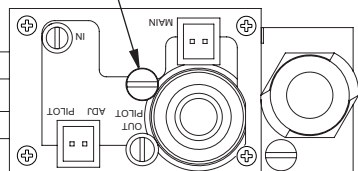

Figure 29 - Turning Equipment Shutoff Valve to the OFF Position
5. Turn equipment shutoff valve clockwise  to the OFF position (see Figure 29). Do not force.
6. Wait five (5) minutes to clear out any gas. Then smell for gas, including near the floor. If you smell gas, STOP! Follow "B" in the safety information. If you don't smell gas, go to the next step.
- Turn the adjustment screw marked PILOT clockwise to decrease or counterclockwise to increase the flame to proper size (see Figure 29, page 24). Do not remove the adjustment screw.